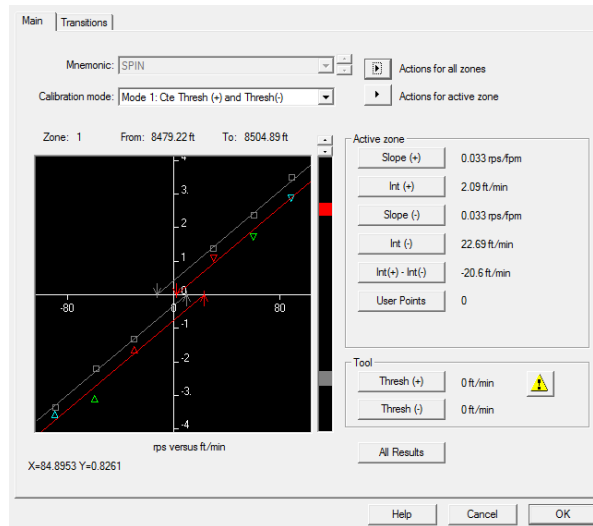

Fig. B02.11 • Calibration
- Also set all negative slopes to the average of the negative slopes (Fig B02.11).